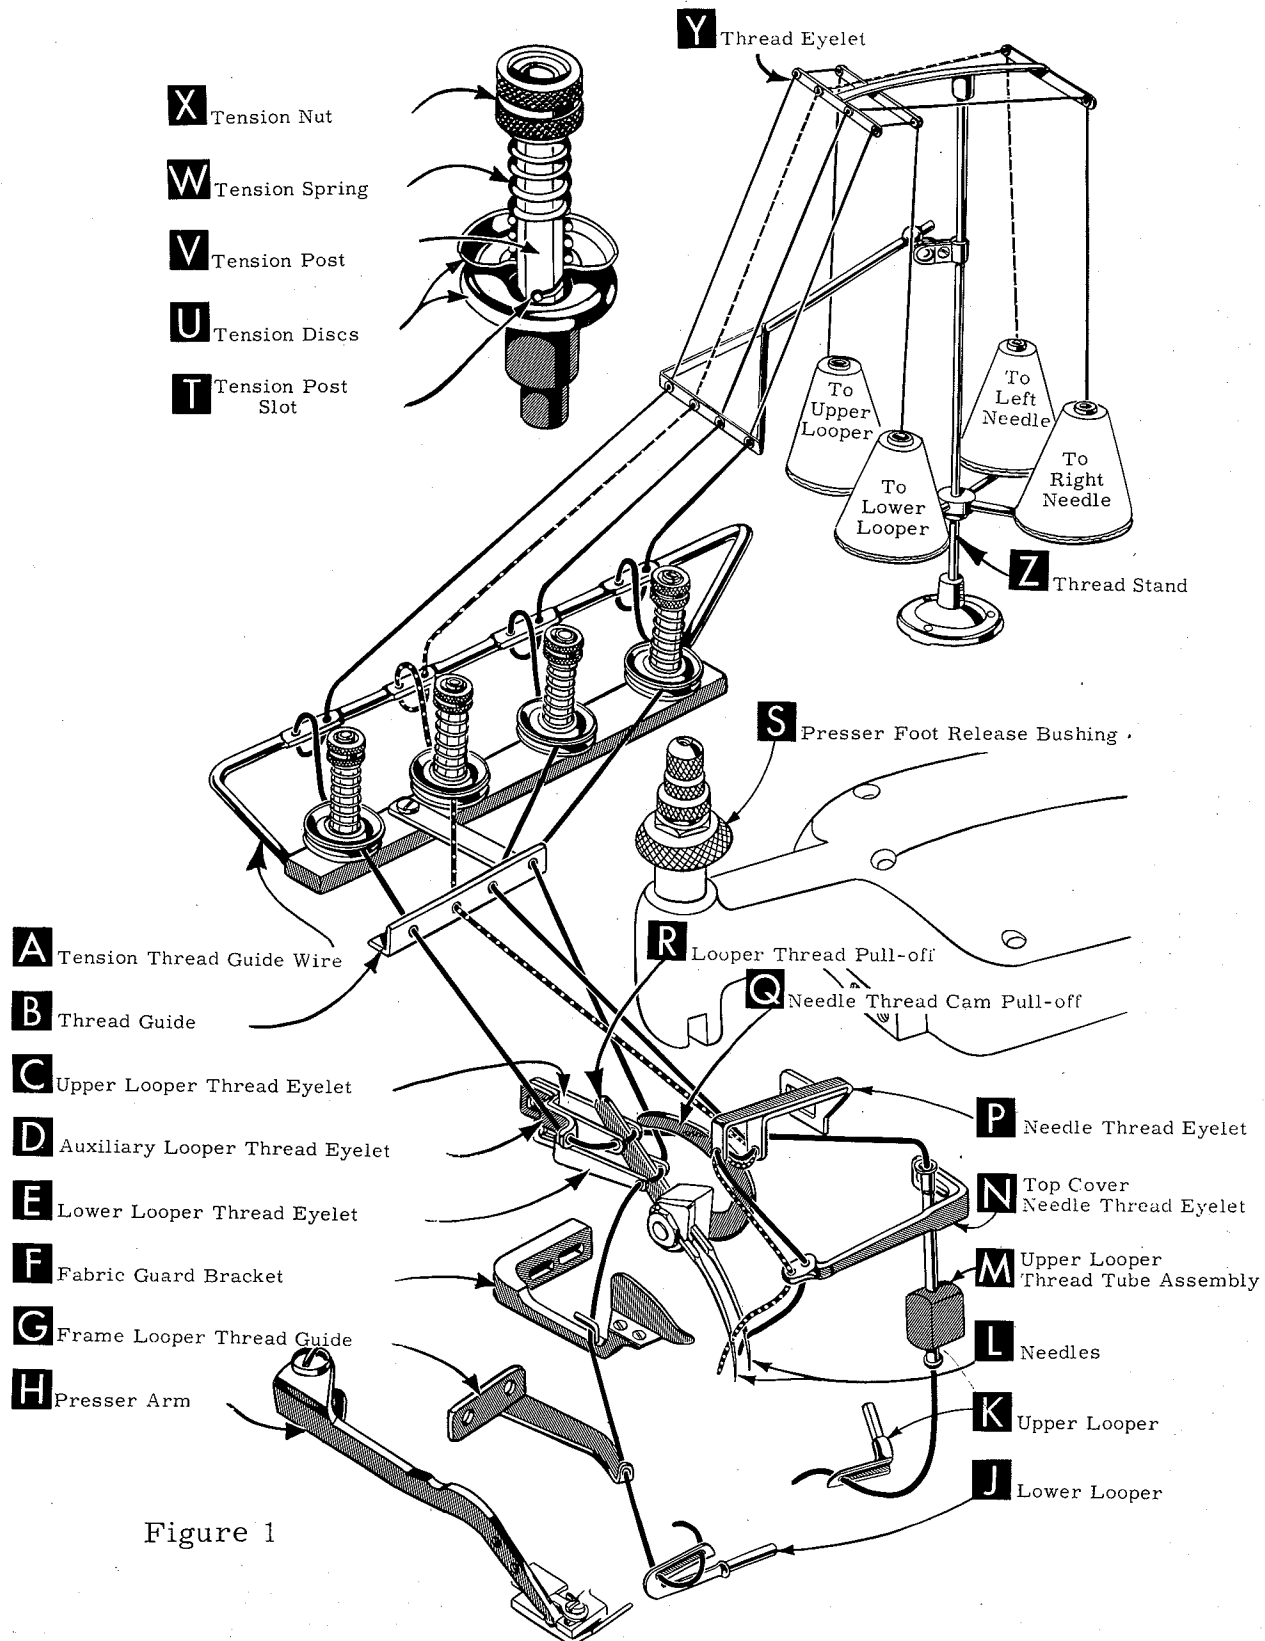

Figure 1
Release pressure on presser foot by turning presser foot release bushing (S, Fig. 1) and swing presser arm (H) out of position. Turn handwheel in operating direction until needles are at their lowest point of travel. Using hexagonal socket wrench No. 21388 AU, furnished with machine, loosen needle clamp nut about 1/4 turn. Again turn handwheel until needles are at their high position; withdraw needles.
After threads come from cones on thread stand (Z, Fig. 1), they are brought up through back eyelets, then down through front eyelets (Y) and through the adjustable thread guide. Next, they are threaded through each pair of holes in tension thread guide wire (A), down through right hand hole and up through left hand hole. Then thread continues between tension discs (U), through slot (T), and on through thread guide (B).
Only parts involved in threading are shown in threading diagram (Fig. 1). Parts are placed in their relative positions for clarity.
Double end of thread and lead it through both eyes of lower looper thread eyelet (E, Fig. 1) from right to left. Note: thread must pass in front of looper thread pull-off (R). Lead thread behind fabric guard (F) and through frame looper thread guide (G). Turn handwheel in operating direction until heel of lower looper (J) is all the way to the left; then thread through both eyes from left to right. Left eye of lower looper can be threaded easily if tweezers are in left hand.
Turn handwheel in operating direction until needles (L, Fig. 1) are at their highest position. Insert both needle threads from right to left, through both eyes of needle thread eyelet (P), under neck of top cover casting; then down through hole in top cover needle thread eyelet (N). Thread needles from front.
The amount of tension on needle and looper threads is regulated by four knurled tension nuts (X, Fig. 1). Tension on threads should be only enough to secure proper stitch formation.
Be sure machine is threaded according to threading diagram (Fig. 1, page 5). With thread tensions light, set looper thread eyelets (C & E) about horizontal and in the middle of their front to back locations. Operate machine slowly, without presser foot in place, to make sure that chain forms and moves off the tongue freely. Swing presser foot into position, insert material, and sew slowly.
While sewing on material, check needle thread control as follows: Usually all needle thread is drawn on needle down stroke. At top of needle stroke, thread should be just tight enough to feed chain off stitch tongue. Stitch tends to pull down slightly if excessive thread is pulled on the up stroke. With needle at bottom of stroke, position needle thread eyelet (P, Fig. 1) so that needle cam pull-off (Q) just contacts needle thread
With material under presser foot, set lower looper thread eyelet (E, Fig. 1) back far enough so thread is a little slack when looper thread pull-off (R) reaches its most rearward position. Looper thread pull-off (R) is set about 1/8 inch distance behind needle thread cam pull-off (Q). Frame looper thread guide (G) should be set with its eyelet approximately 1/8 inch right of lower looper (J) heel eyelet at the time lower looper is at extreme left end of its travel.
Before proceeding to adjust upper looper thread eyelet (C, Fig. 1) balance all four tensions to give a normal appearing stitch. Moderate change in these tensions will not markedly effect the purl.